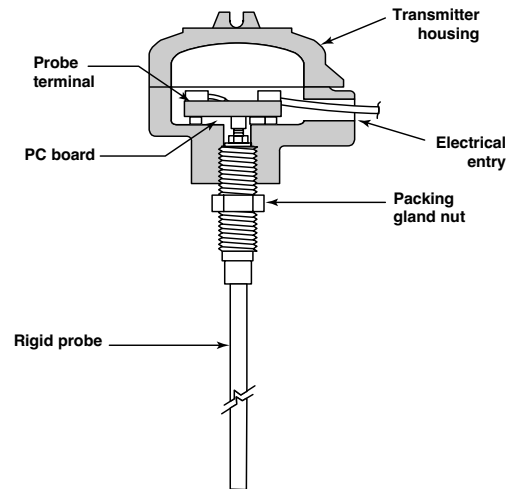

Figure 2
2. Tighten securely, being certain that the wrench is applied **ONLY** to the packing gland nut. See **Figure 2**.
4. Screw housing on probe until hand tight. Housing can be wrench tightened to align electrical connection. See **Figure 2**.